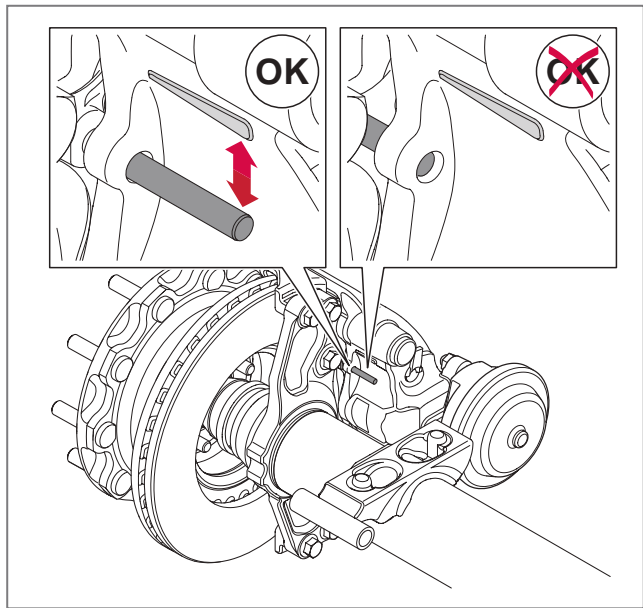

Fig. 15 - Inspection of the visual wear indicator
1. Inspect the position of the visual wear indicator (VWI), see ► *Fig. 15*. This check can be completed with either the wheel fitted or removed. The VWI provides an indication of the pad wear condition, but it does not provide an accurate measurement of pad wear on both pads. To obtain an accurate wear measurement of both pads, continue with the following instructions.